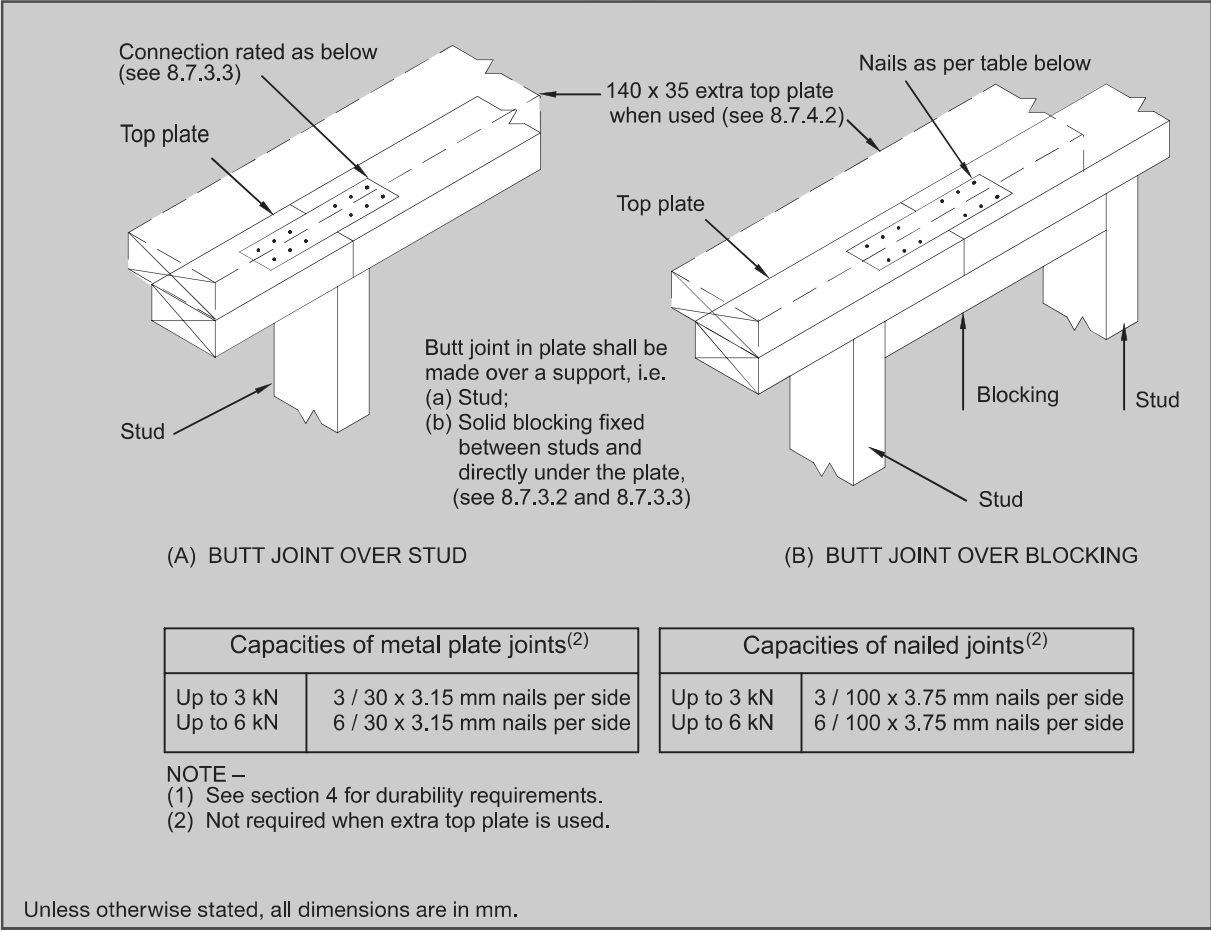

Figure 8.15 – Connecting top plates in line – Walls containing bracing (see 8.7.3.3)
- (a) *Bracing capacity* not exceeding 100 *bracing units*: A 3 kN connection as shown in figure 8.15 or by an alternative fixing of 3 kN *capacity* tension and compression along the *plate*;
- (b) *Bracing capacity* exceeding 100 *bracing units*: A 6 kN connection as shown in figure 8.15 or by an alternative fixing of 6 kN *capacity* tension and compression along the *plate*.
- (c) *Wall top plates* to which ceiling *diaphragms* are attached: A 6 kN connection as shown in figure 8.15 or by an alternative fixing of 6 kN *capacity* in tension and compression along the *plate*.